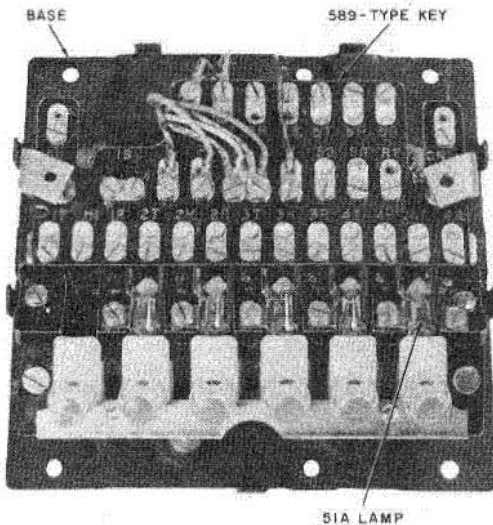

Fig. 6—6041-Type Key, Internal View
3.07 **6041-Type Keys** may be mounted to wall or other vertical surface. The key cable is connected directly to the terminal board (Fig. 6).